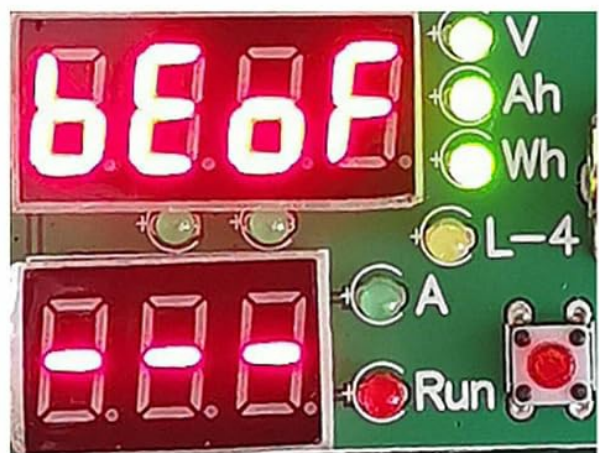

Figure 3: Examples of display settings, including entering the function setting menu and buzzer on/off options.
- Navigate to the buzzer setting option (refer to Figure 3 for visual guidance).